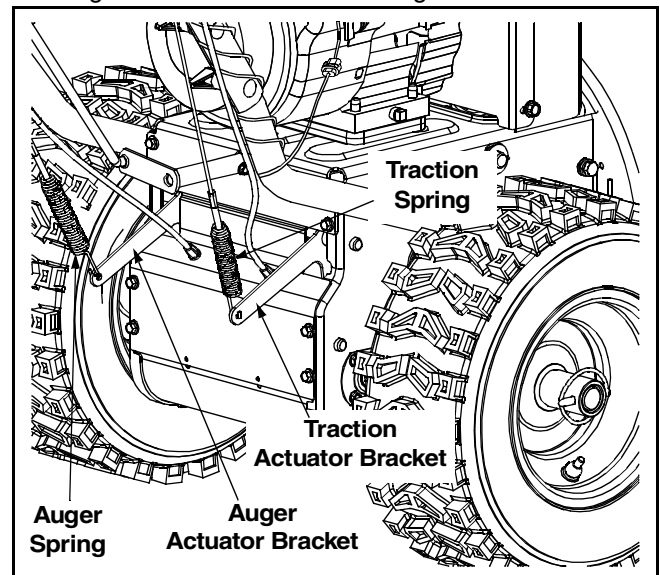

Figure 8
- To readjust the control cable, unhook the spring (found on the end of the auger cable) from the auger actuator bracket. See Figure 8.
- Move the shift lever into sixth (6) position.
- To readjust the control cable, unhook the traction spring (found on the end of the traction control cable) from the traction actuator bracket. See Figure 8.